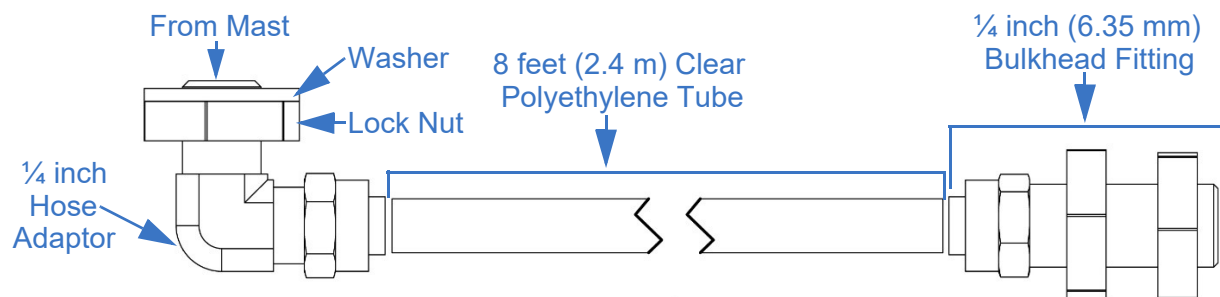

Figure 5-28 Drain Kit (P/N: 902982)
1. Be certain the locknut and washer are threaded over the end of the ¼ inch (6.35 mm) hose adaptor (Figure 5-28).